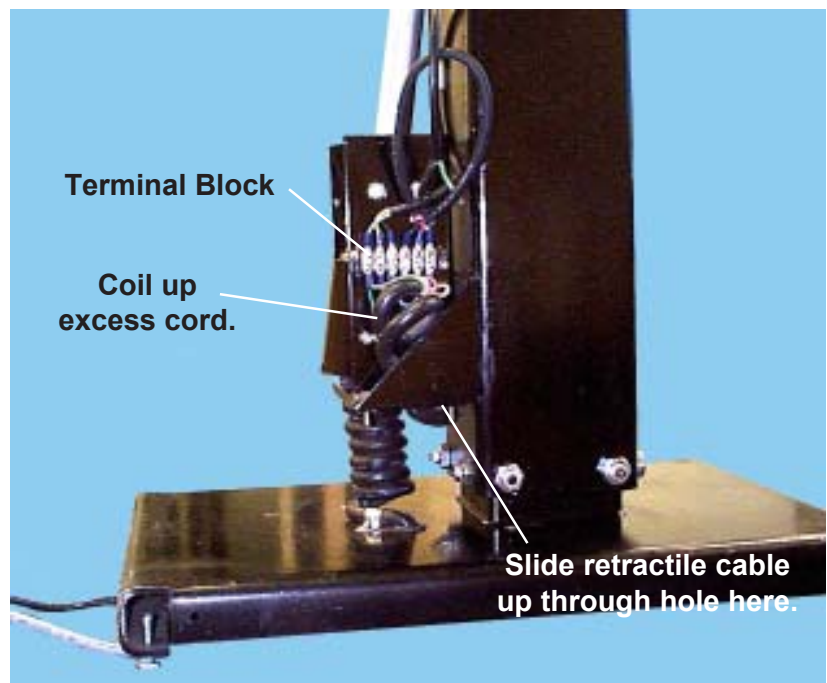

Figure 53. Installing Retractable Cord
8. Slip the free end of the retractile cable up through the hole in the actuator bracket near the terminal block (Figure 53).